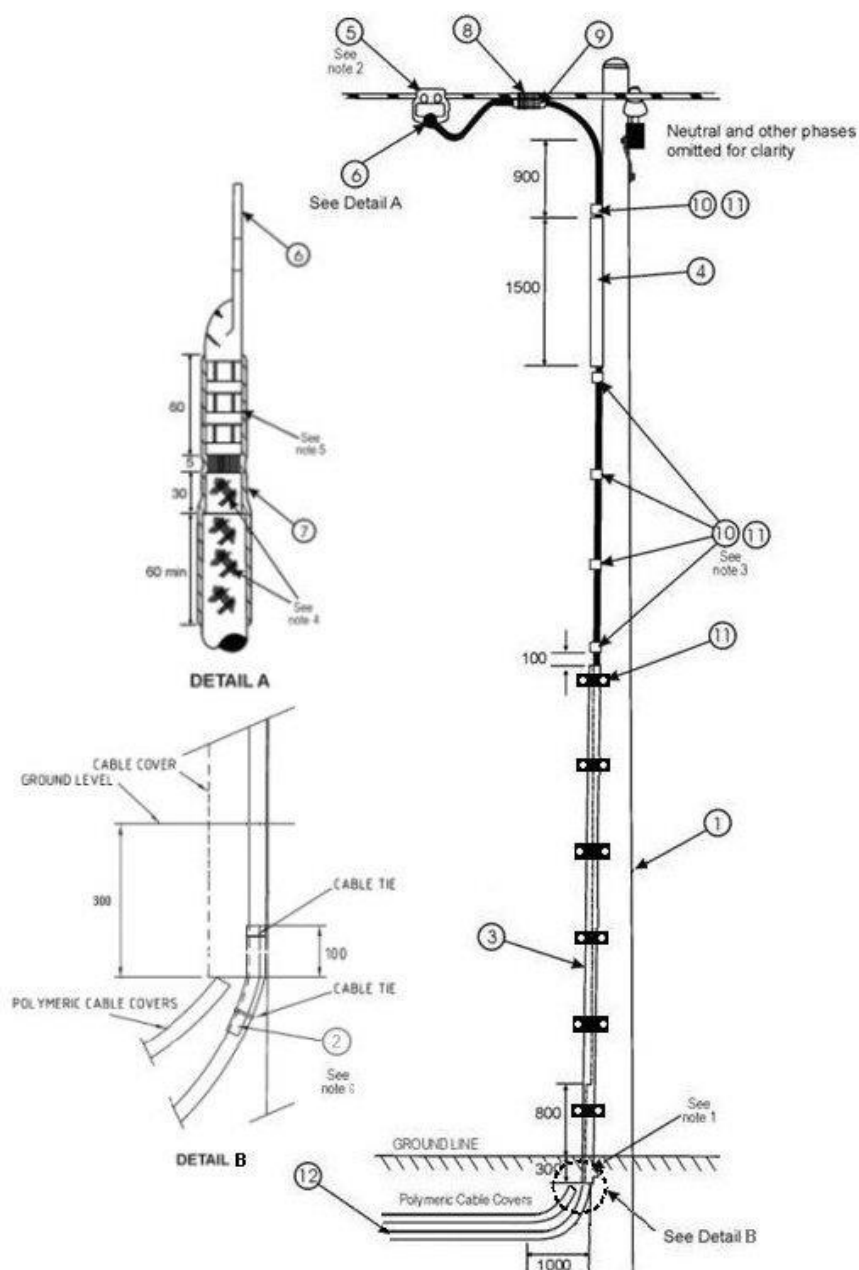

Figure 13.1 – General Arrangement
- Abrade the cable sheath and the cable insulation to the dimensions shown on Figure 13.1.